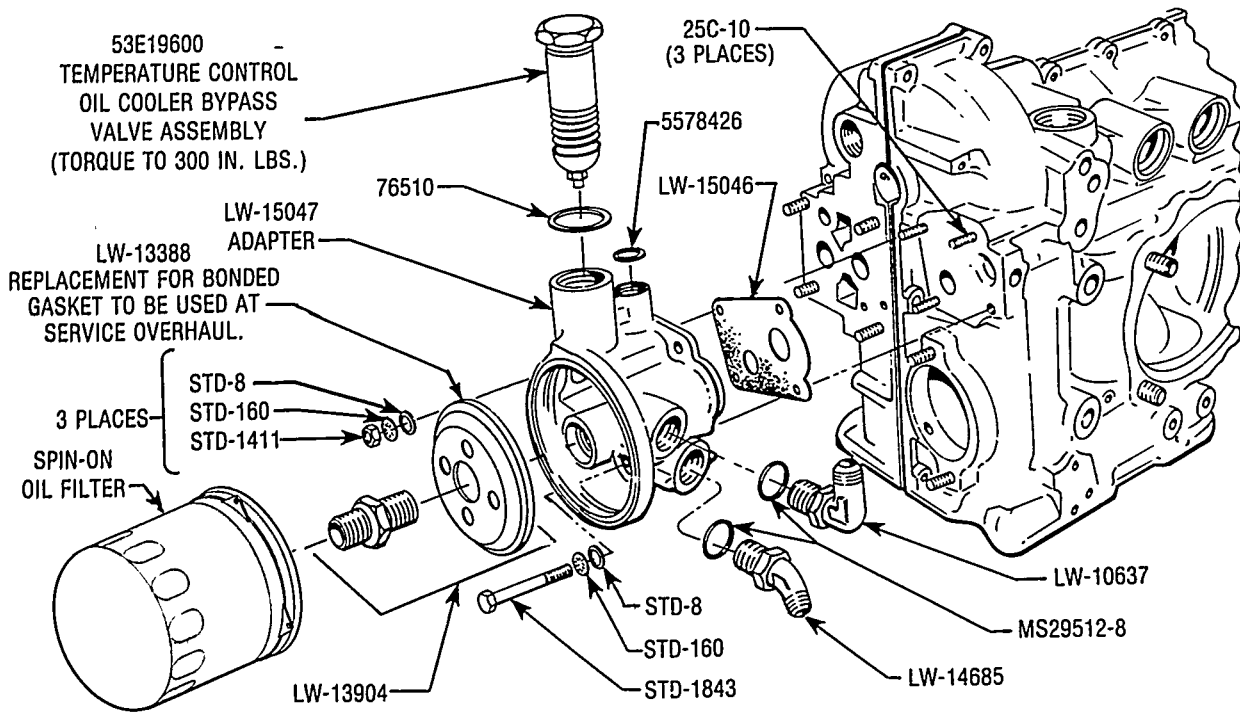

Figure 4. Exploded View of Full-Flow Oil Filter Assembly - 76 Series
4. If the engine was not equipped with a thermostatic bypass valve, remove the plug located above the oil filter mounting pad and remove the spring and plunger that serve as an oil cooler bypass valve. Reinstall the plug and gasket. See Figures 2 and 3. Remove the oil cooler adapter on 76 series models. The full-flow filter base contains all provisions for oil cooler operation; therefore, the adapter is no longer necessary. See Figure 4.
5. Using a 1/4 inch stud driver, install a P/N 25C-10-P03 stud (P/N 25C-14-P03 on IO-720 engines) in the lower left tapped hole in the accessory housing mounting pad. See Figures 2 and 3. Drive the stud to a height of .64/.68 on O-235-C models; 1.08/1.12 on IO-720 models, and .60/.64 on all other engine models. On 76 series models, first remove the two original studs from the oil filter pad, then install three P/N 25C-10-P03 studs (1 each) at the lower left, upper left and upper right mounting pad holes. See Figure 4. Driven height on these studs is .59/.63.
The installation of the P/N LW-13904 converter kit is as follows: See Figures 4 and 5.